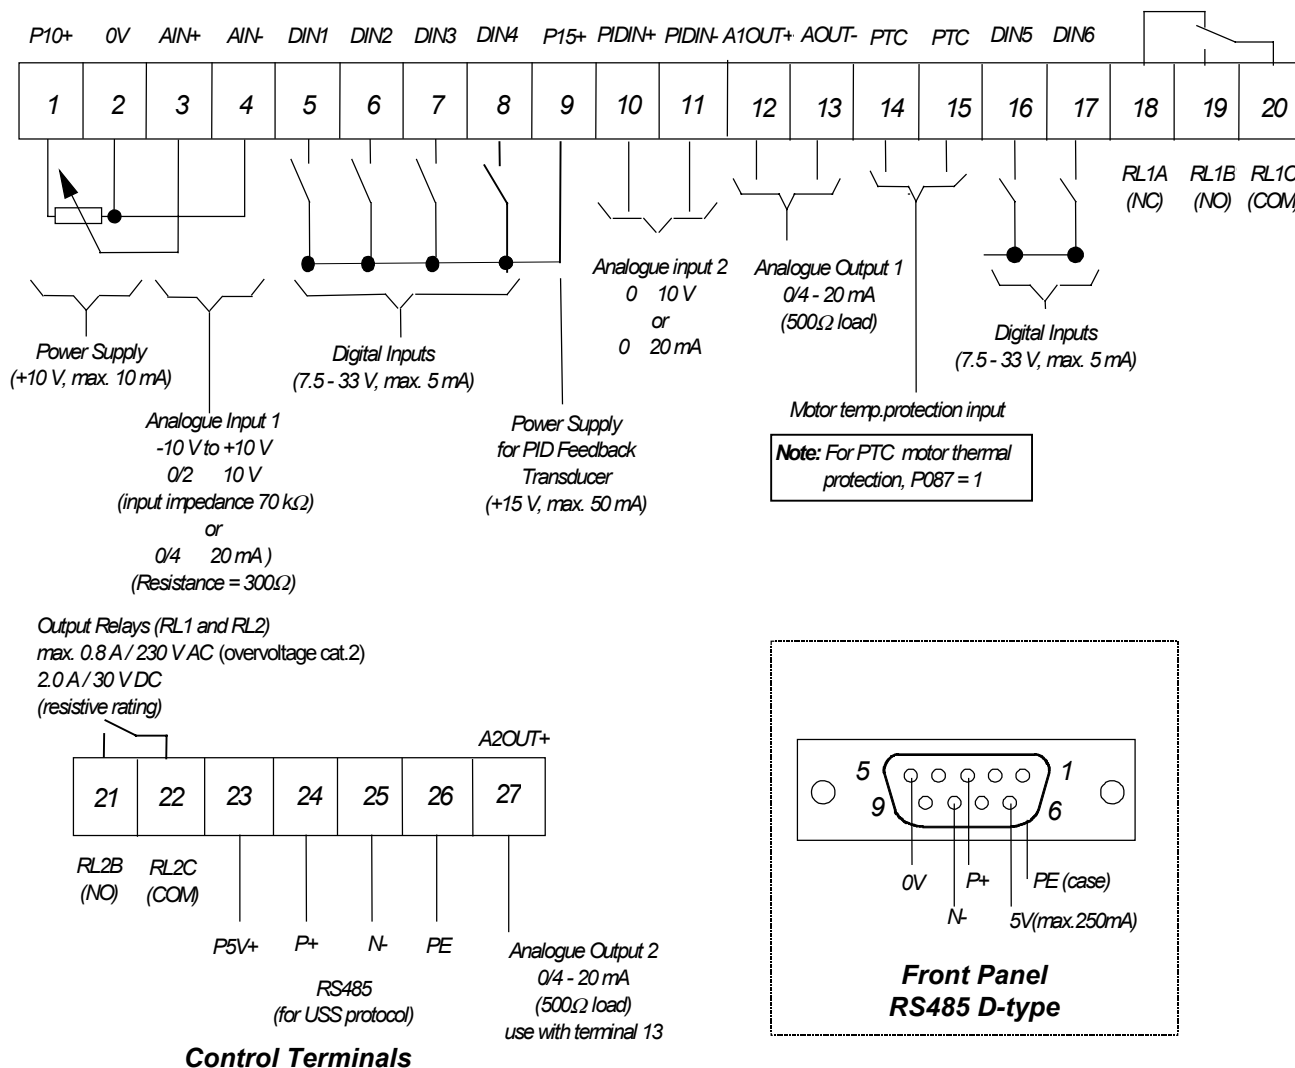
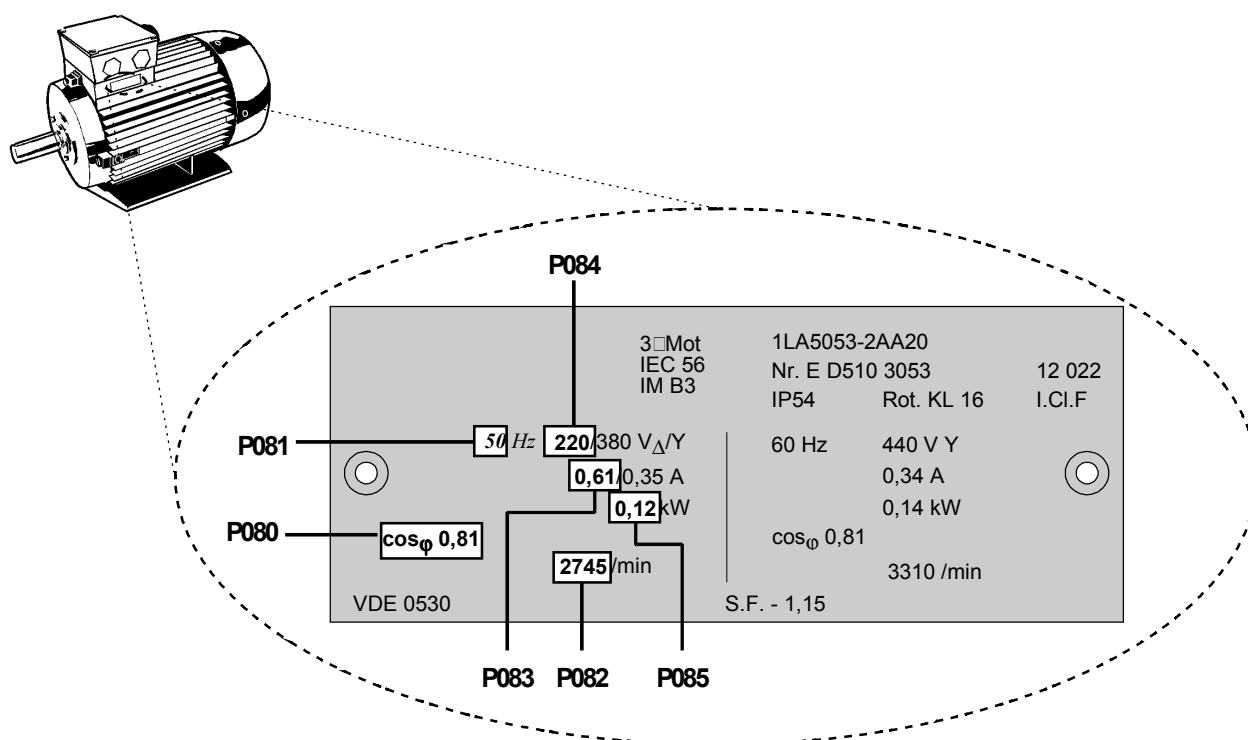

Figure 3.2.2: Control Connections - MIDIMASTER Vector
Figure 4.2.1: Typical Motor Rating Plate Example
- (1) The inverter does not have a main power switch and is therefore live when the mains supply is connected. It waits with the output disabled until the RUN button is pressed or for the presence of a digital ON signal via terminal 5 (rotate right- default) or terminal 6 (rotate left- default) - see *parameters P051 to P055 and P356*.
- (2) If output frequency (P001 = 0) is selected as the display, the corresponding setpoint is flashed on the display approximately every 1.5 seconds while the inverter is stopped.
- (3) The inverter is programmed at the factory for standard applications on Siemens standard motors. When using other motors it is necessary to enter the specifications from the motor's rating plate into parameters P080 to P085 (see *Figure 4.2.1*). **Note: Access to these parameters is not possible unless P009 = 002 or 003.**
- (1) Connect control terminal 9 to terminal 5 via a simple on/off switch. This sets up the inverter for clockwise rotation of the motor shaft (default).
- (2) Secure all covers to the unit and then apply mains power to the inverter. Set parameter P009 to 002 or 003 to enable all parameters to be adjusted.
- (3) Check that parameter P006 is set to 000 to specify digital setpoint.
- (4) Set parameter P007 to 000 to specify digital input (i.e. DIN1, terminal 5 in this case) and disable the front panel controls.
- (5) Set parameter P005 to the desired frequency setpoint.
- (6) Set parameters P080 to P085 in accordance with the rating plate on the motor (*see Figure 4.2.1*).
- (7) Set the external on/off switch to ON. The inverter will now drive the motor at the frequency set by P005.
- (1) Connect control terminal 9 to terminal 5 via a simple on/off switch. This sets up the motor for clockwise rotation (default).
- (2) Connect a 4.7 k Ω potentiometer to the control terminals as shown in Figures 2.2.4 and 2.2.6 (MMV) (Figures 3.2.2 and 3.2.4 (MDV)) or connect pin 2 (0V) to pin 4 and a 0 - 10 V signal between pin 2 (0V) and pin 3 (AIN+).
- (3) Set the Analogue Input 1 Configuration DIP selector switches 1, 2 and 3 for voltage (V) input. (*see Figure 3.2.2-3.2.4, Section 4.1.2*)
- (4) Secure all covers to the unit and then apply mains power to the inverter. Set parameter P009 to 002 or 003 to enable all parameters to be adjusted.
- (5) Set parameter P006 to 001 to specify analogue setpoint.
- (6) Set parameter P007 to 000 to specify digital input and disable the front panel controls.
- (7) Set parameters P021 and P022 to specify the minimum and maximum output frequency settings.
- (8) Set parameters P080 to P085 in accordance with the rating plate on the motor (*see Figure 4.2.1*).
- (9) Set the external on/off switch to ON. Turn the potentiometer (or adjust the analogue input control voltage) until the desired frequency is displayed on the inverter.